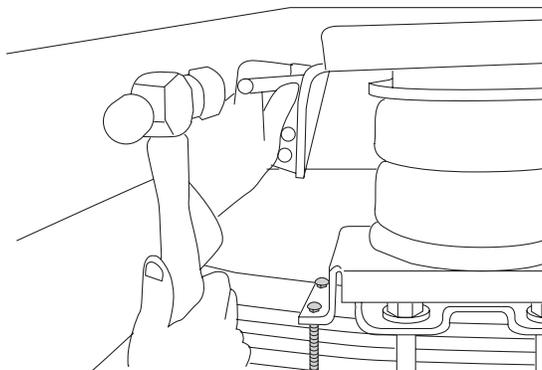

fig. 6
5. Clamp the upper bracket to the frame rail with a C-clamp or welding clamp and center punch one mounting hole (Fig. 6).